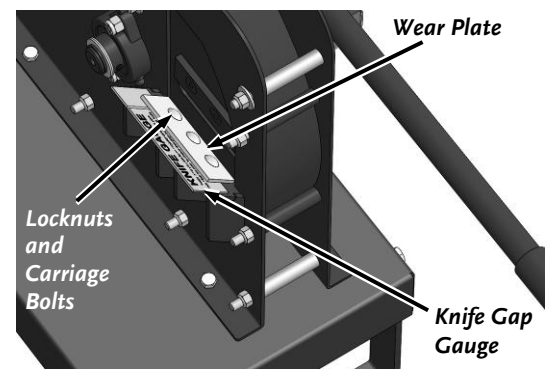

Figure 4
1. Loosen the three Locknuts on the Carriage Bolts enough to remove the Knife Gap Gauge (**Figure 4**).